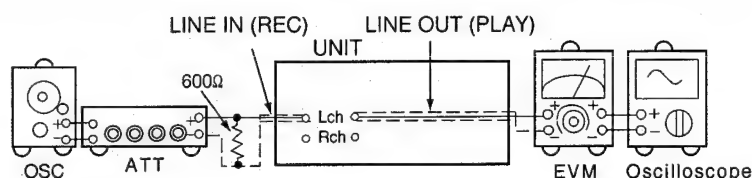

Fig. 10
1. Connect the measuring instrument as shown in Fig. 10.